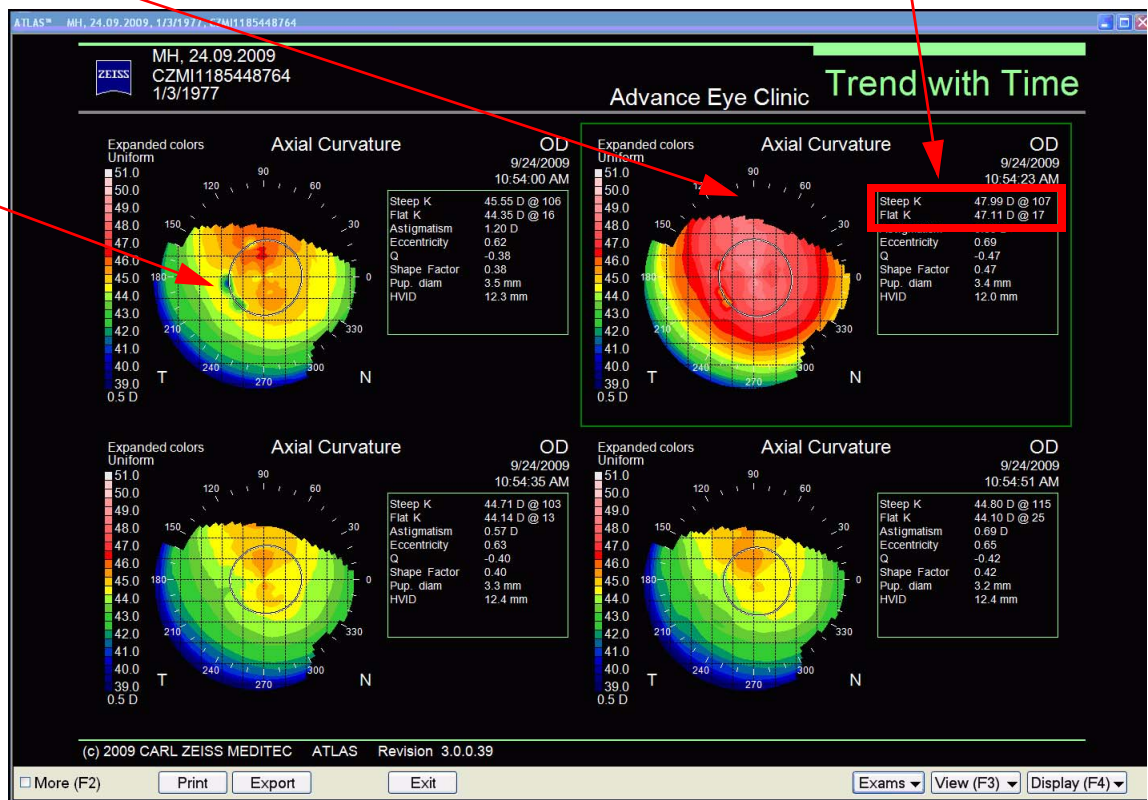
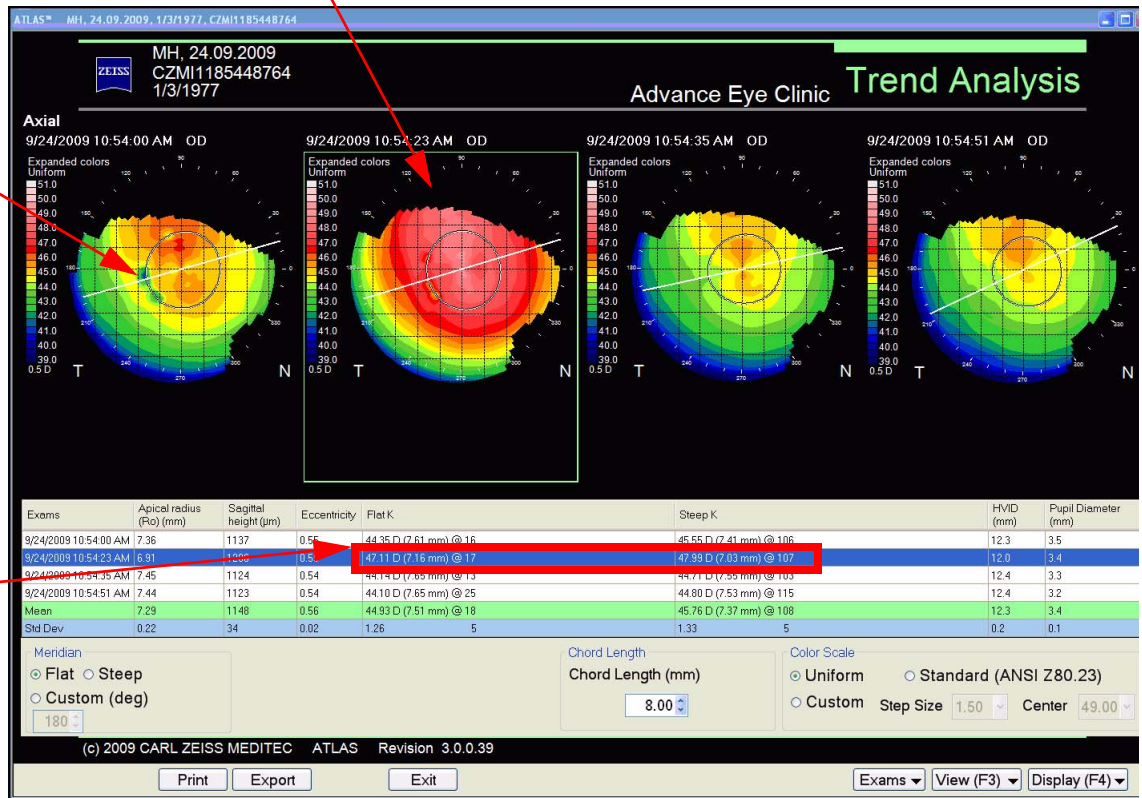

Figure A-9 Trend Display Revealing Outlier Exams
Figure A-10 Trend Analysis Display Revealing Outlier Exams
- Use the Trend Display (Figure A-9) or Trend Analysis Display (System Software V3.0 only) (Figure A-10) to identify distinctly different exams. The Trend Analysis Display shows the mean and standard deviation of the Sim K values, useful to determine repeatability. In these Figures, notice the distortion artifacts on the 10:54:00 exam, and the higher Sim K values on the 10:54:23 exam—either one of the other exams should be selected as the best quality image.